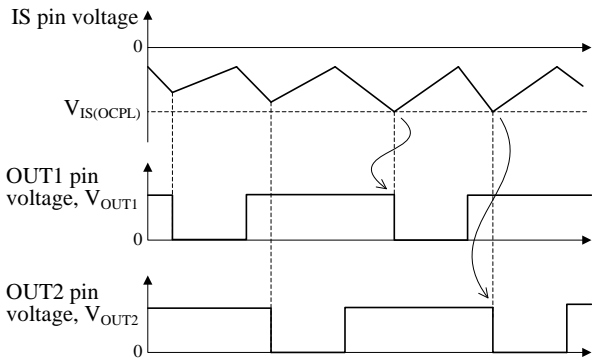

Figure 8-15 OCP operation by  $V_{IS(OCPL)}$  (Both  $V_{OUT1}$  and  $V_{OUT2}$  are High)
2) When both  $V_{OUT1}$  and  $V_{OUT2}$  are High, the output which is set to High ahead is set to Low as shown in Figure 8-15.